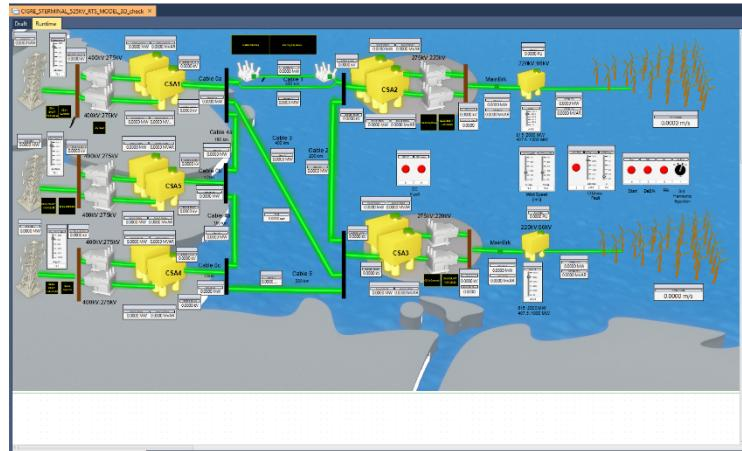

Figure 2 Screenshot of Runtime for "CIGRE_5TERMINAL_525KV_RTS_MODEL_3D_check" file.
- Step 7: Now go to the *Runtime* tab, and you will see the following image, as shown in Figure 2.